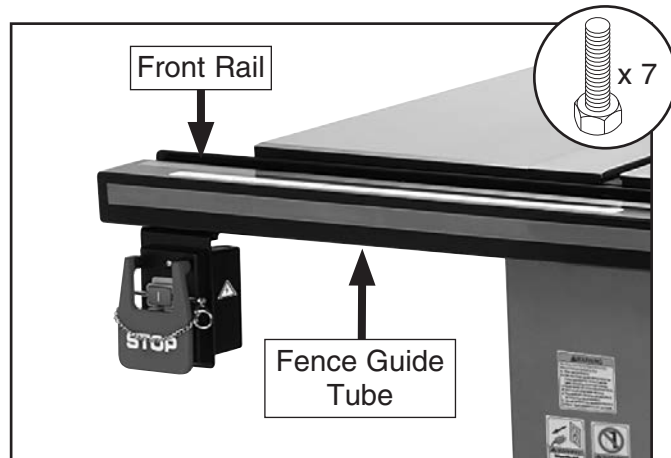

Figure 17. Fence guide tube attached to front rail.
15. Place fence guide tube over front rail and secure with (7) M8-1.25 x 12 hex bolts (see **Figure 17**).